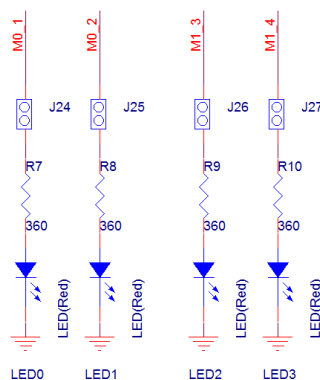

Figure 1-8 Schematic of LED circuit
- 1) **Mark 16:** 4 independent LED used for development of customized application. Confirm that corresponding jumpers (J24 to J27) are connected properly before develop. Schematic is shown in figure 1-8.